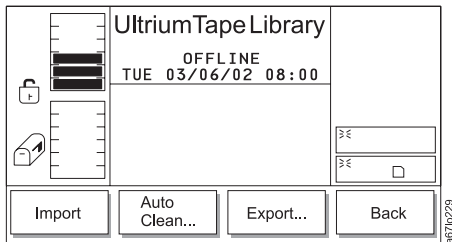

Figure 4-87. I/O Station Submenu
2. Press the button below the **I/O Station** softkey. The I/O Station Submenu displays (see Figure 4-87).